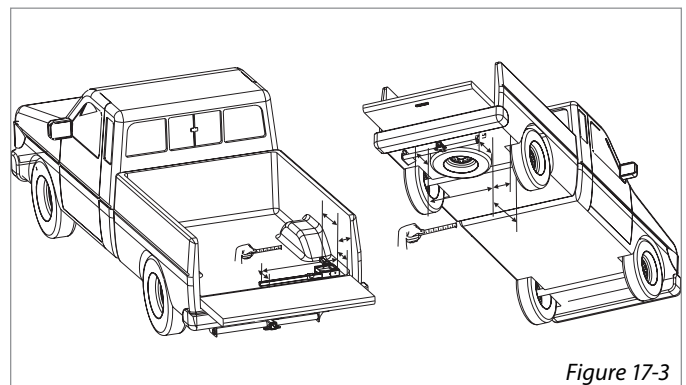

Figure 17-3
3. **Recommended practice before drilling.** With base in position, use a tape measure to estimate the distance in both directions from an exterior reference point (Ex. outside body panel) to all three potential bolt holes. Repeat this underneath the truck bed. [Figure 17-3]